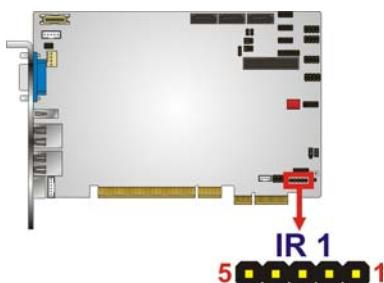

Figure 3-10: Infrared Connector Pinout Locations
**CN Location:** See Figure 3-10